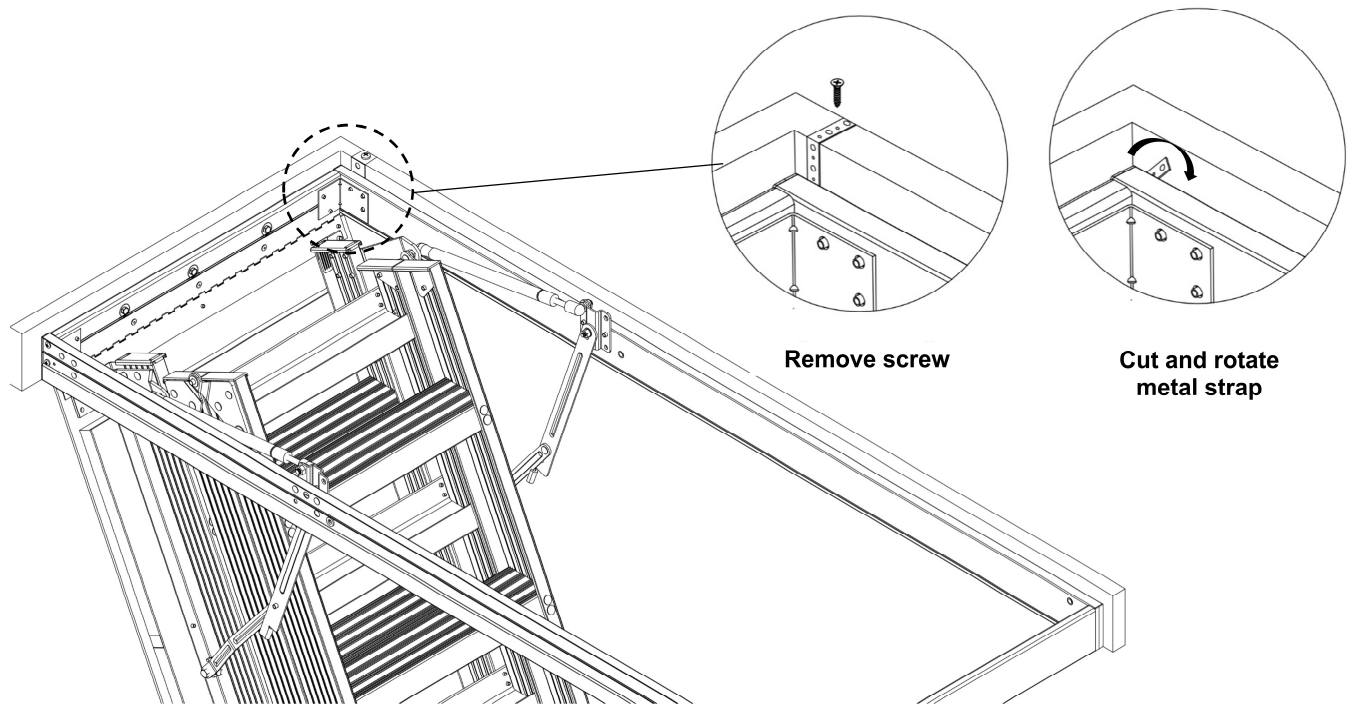

FIGURE 24 : REMOVING EXCESS METAL STRAP MATERIAL
T. Installer #2: With the aluminum attic ladder frame secured and the door open, remove the wood screws from the metal straps. Cut the metal straps as close as possible to the aluminum frame. Be careful of any sharp edges. Turn any excess strap material down between the aluminum frame and rough opening to eliminate a possible catch point. **See Figure 24.**